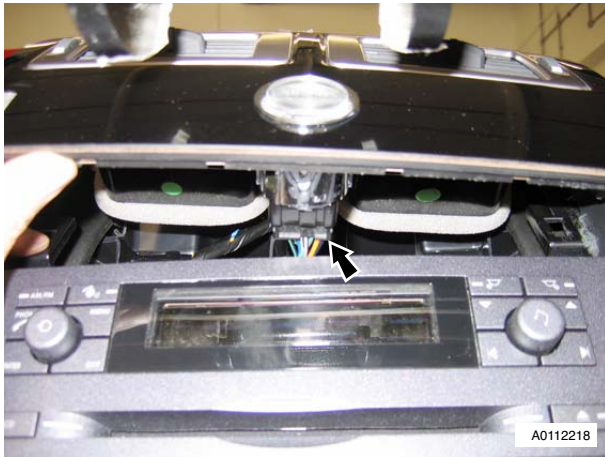

Figure 1
2. Disconnect multiplug (x1) starter button and remove panel assembly (see Figure 1).